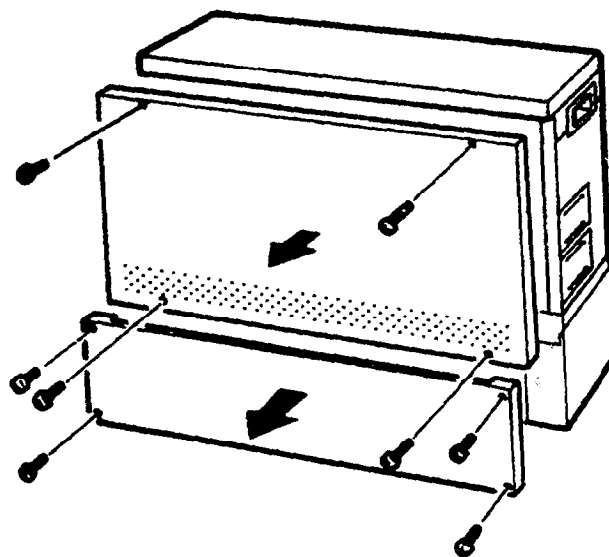

Figure 3-41 Removing the Level II Advanced Basic KSU Cover
1. Loosen the eight cover screws, and remove the front cover. Refer to Figure 3-41 - Removing the Level II Advanced Basic KSU Cover.